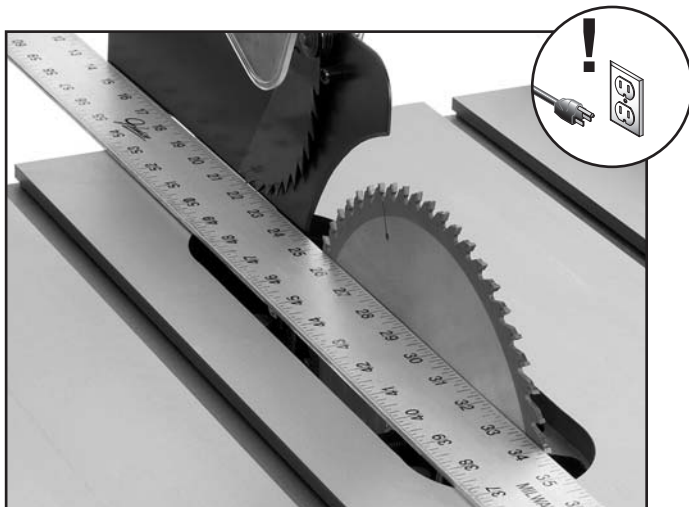

Figure 28. Checking alignment of blade guard.
9. Place a straightedge against the face of the saw blade and the blade guard (**Figure 28**).